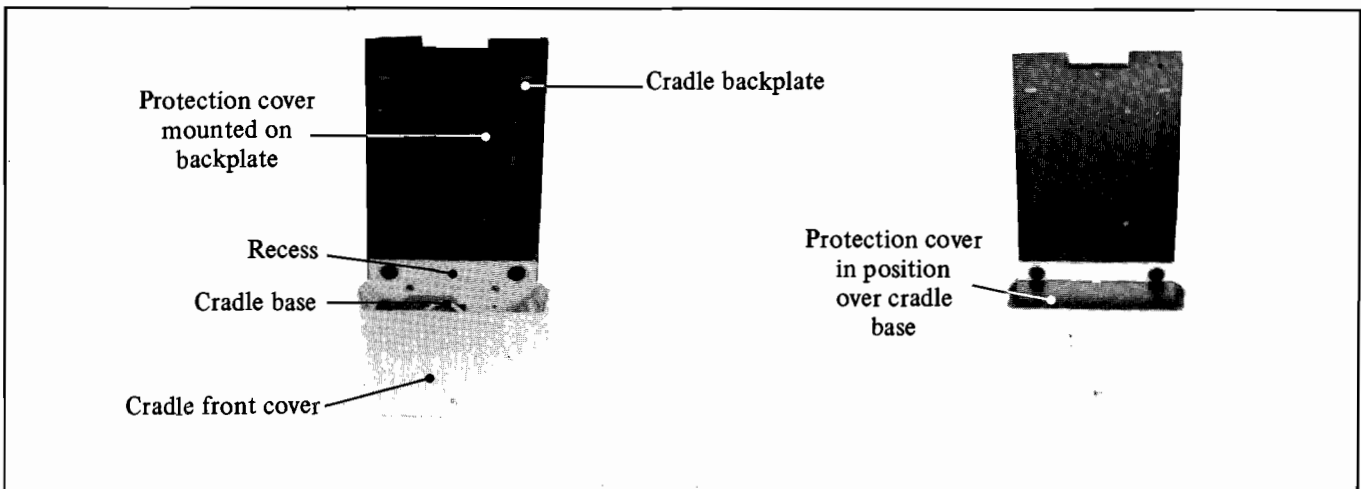

Figure 15-2 Cradle Base Protection Cover
The cradle base is supplied with a protection cover to inhibit the ingress of dirt when a 3076A/3077A terminal is not installed. It also prevents unauthorized access to the data communications and power connections. The protection cover is normally bolted to the inside surface of the cradle backplate (see figure 15-2). However, when the cradle has been mounted on a wall with the cradle front cover in place (and before the terminal is installed) the protection cover should be positioned on the base as follows:
- 3) Press the back edges of the protection cover into the recess on the top inside surface at the back of the cradle base (see figure 15-2).